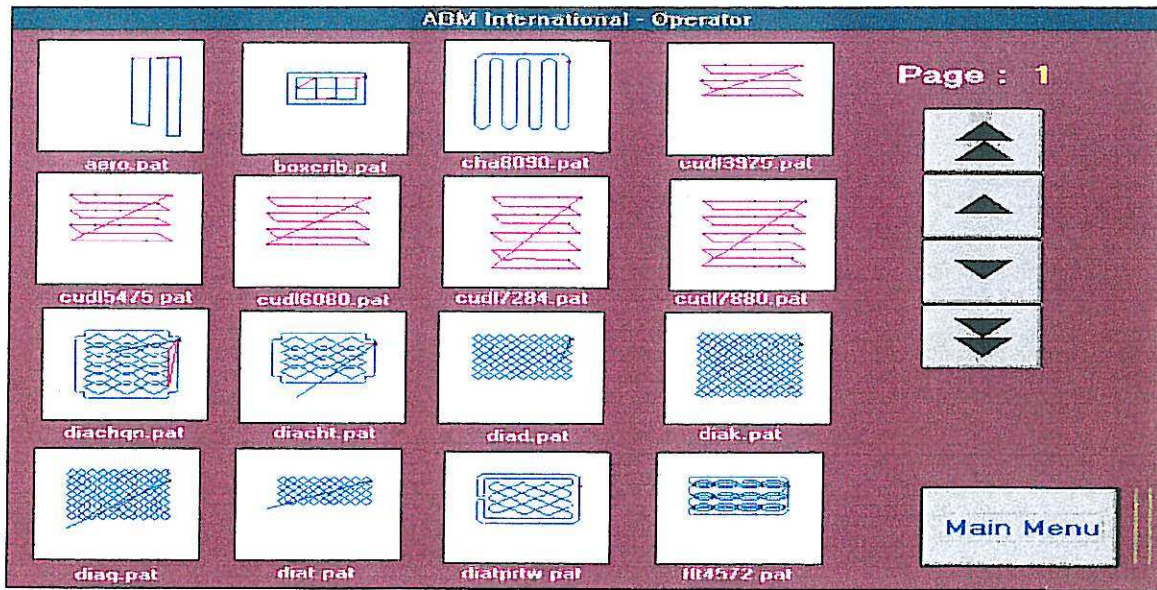

Figure 4.9
C. To load a pattern, press "Load Pattern" key to see available patterns. Choose a pattern by touching the pattern box of the pattern which you want to run. See *Figure 4.9*.